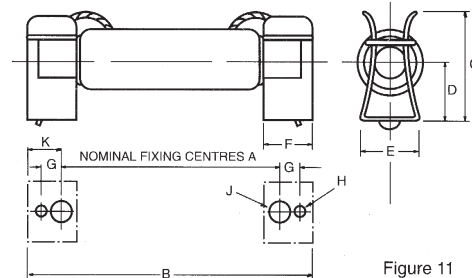

Figure 11
**Table 6 mounting clip dimension (mm)** See Fig. 11
These mounting clips are suitable for termination styles C, CB and CP. MD4, 5 and 6 have an ear formed in the bottom surface of the bracket to prevent rotation of the mounting plate. The auxiliary locking springs ensure positive retention of the tube under severe mechanical shock conditions. See Figure 11.